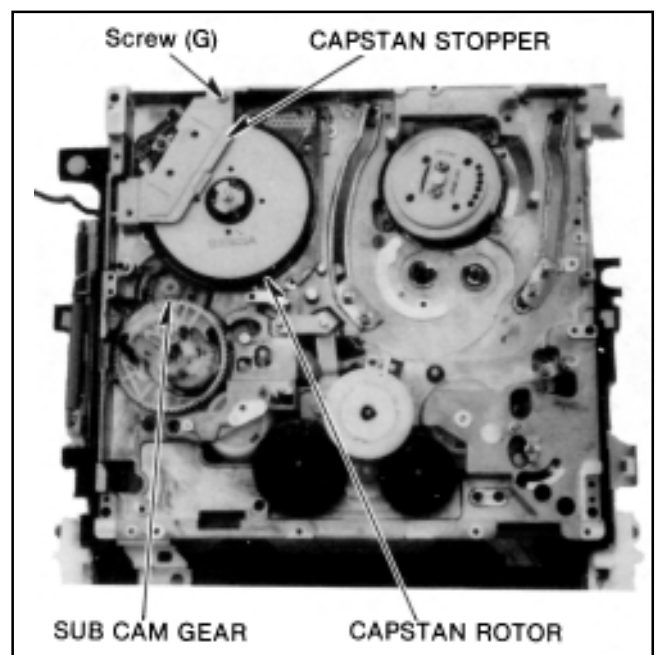

Fig. A8
- 1) Remove the screw(G) and remove the CAPSTAN STOPPER as shown in Fig.A8.